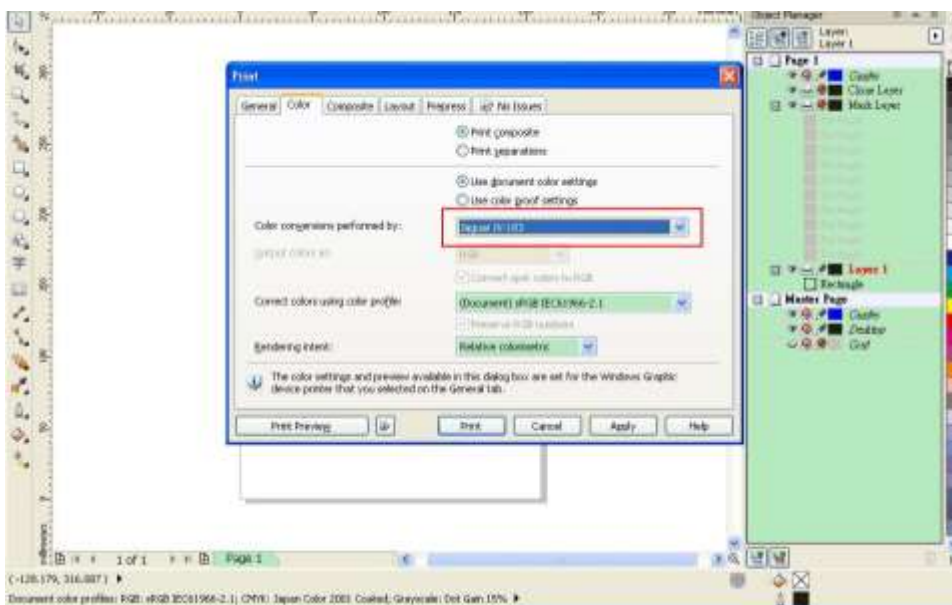

Figure A3-14
Step 1 Click the “color” page and go to the “Color conversions performed by:” and then select the model name of your cutter (please refer to Figure A3-14).